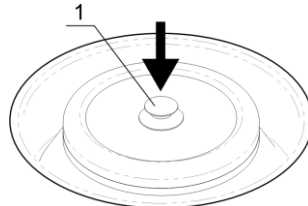

Figure 2. Installing the rotor lid
- Place the lid on the rotor and firmly press the holder down around the latch (fig. 2/1).
5.7. Place the rotor lid on the rotor and firmly press the lid holder down around the latch (fig. 2/1). Firmly press on the covering lid in two places over both hinges to close it. The clicking sound of the lock and the indication 🔒 in the lower line of the display confirm that the lid is closed.